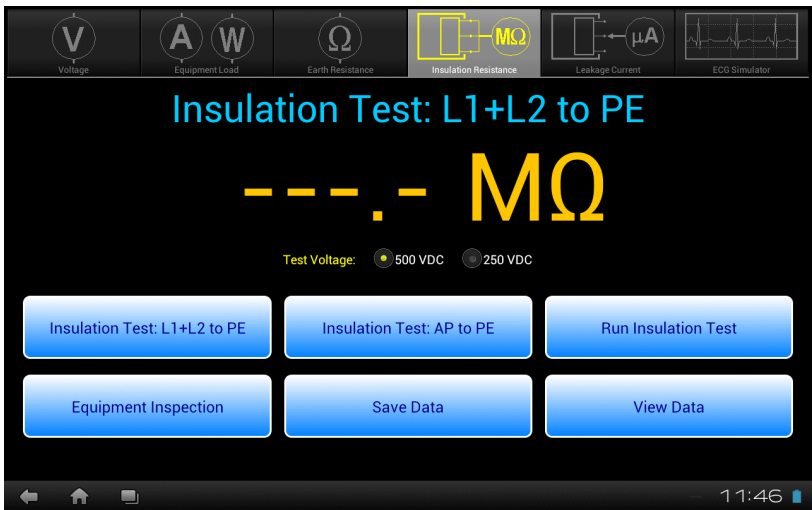
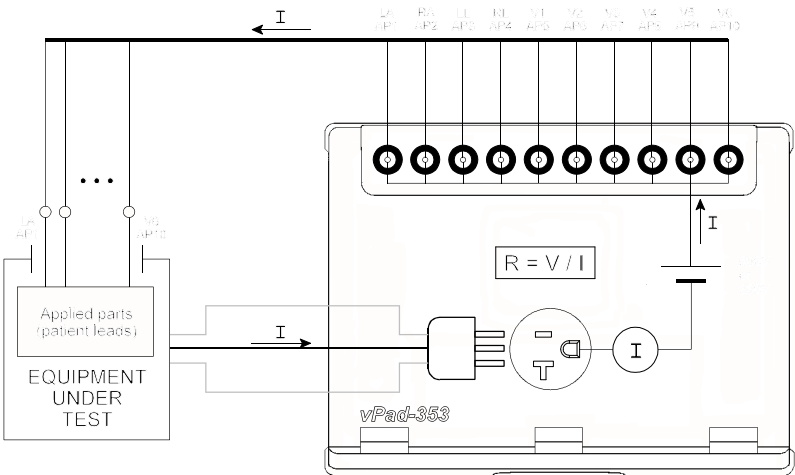

Figure 37- Insulation test mode.
Figure 41 - Insulation Resistance test - Applied Parts to Protective Earth
Referring to the display screen shown in *Figure 37*, the **Insulation Test: AP to PE** button may be used to enable measurement of resistance between the EUT's Applied Parts (AP) and its protective earth terminal (PE). This is represented in the schematic of *Figure 41*.